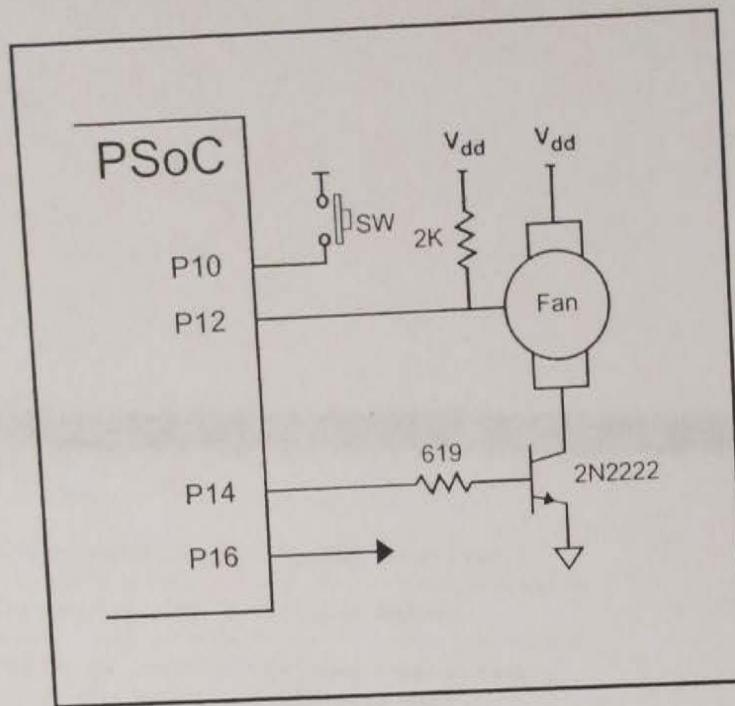

Figure 1.30: Fan controller schematic.
- Configure the schematic as shown in Figure 1.30.